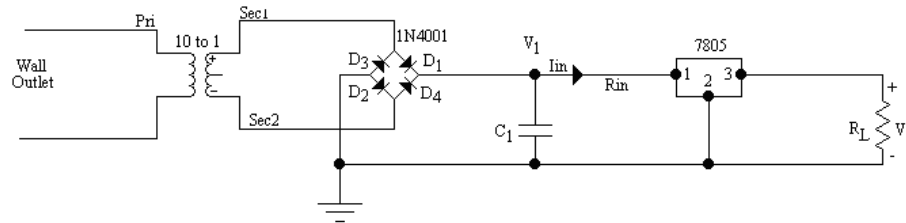

Figure 7.5 Voltage Regulator
5. Assume  $D_1=D_2=D_3=D_4 = 1N4001$ ,  $R_L=100\ \Omega$ ,  $C_1=220\ \mu F$ , for Figure 7.5.
5. Construct the circuit of Figure 7.5. Measure  $I_{in}$  using the DMM, calculate  $R_{in}$ . Calculate the ripple voltage at  $V_1$  and compare to the measured ripple at  $V_1$ . Measure the ripple at  $R_L$ . Decrease  $C_1$  to 100  $\mu F$ , to increase the ripple. Measure  $V_L$  and explain what's happening.